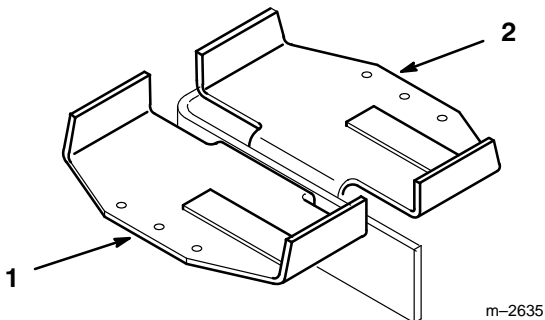

Figure 7
1. Mount battery holders to back side of left rear corner of cutting unit carrier frame with (2) 3/8-16 x 1-3/4" bolts and 3/8" locknuts (Fig. 7).